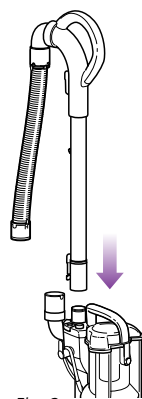

Fig. 2
- 3** Insert the handle with the extension wand into the top of the vacuum until secure. (**Fig. 2**)